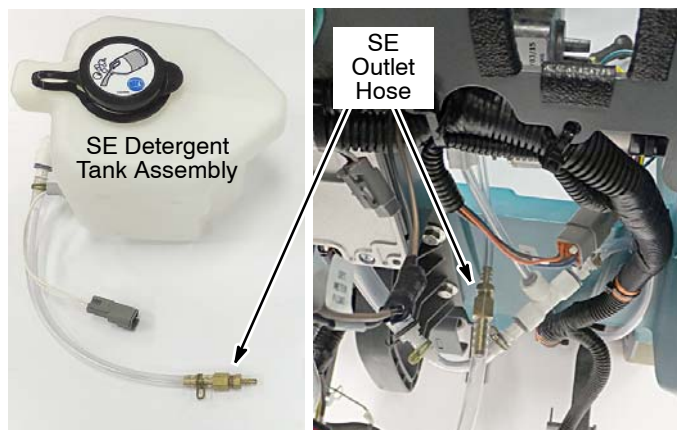

Fig. 33
9. Connect the SE detergent tank assembly outlet hose to the SE pump assembly (Figure 33).